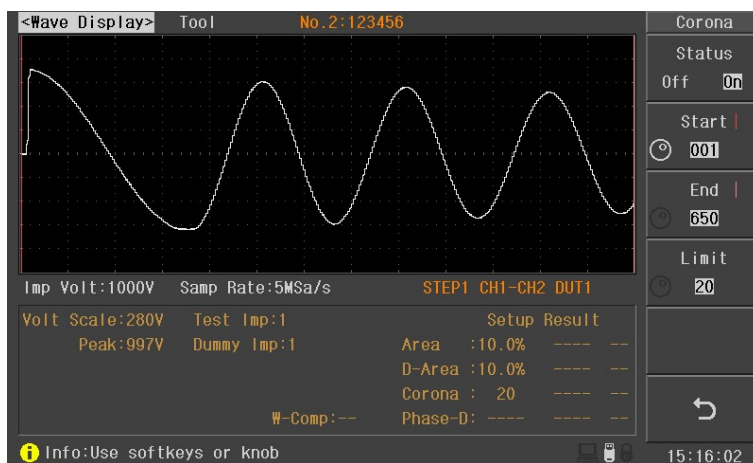

Figure 4-1-3-7 Corona setup interface
Phase-Dif: phase-dif directly reflect the inductance difference of coils, mainly used for the judgment of inductance difference. User can specify a zero-crossing point to compare. The instrument will judge the zero-crossing offset between the tested waveform and standard waveform and then compare the oscillation period between the two waveforms. The percentage of the two values will be taken as the judging criterion and the reference is set by percentage. Move the cursor to Phase-dif zone and use Status to set the phase-dif to ON or OFF. When the phase-dif is set as ON, the check symbol will be displayed in the left side of Limit. Use the numeric key to input the Limit. Or press Comparator key to enter into the comparator setup interface (figure 4-1-3-4, standard sampling must be made) and then press Phase-dif to enter into the Phase-dif setup menu (figure 4-1-3-8), set the phase-dif ON/OFF, position and limit through soft key 1-4. After setting, start a test to observe whether the test results of phase-dif is within the limit.